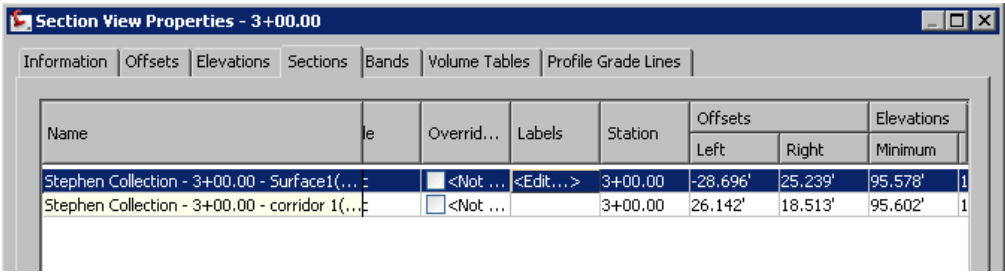

Figure 9-38 Partial view of the **Sections** tab of the **Section View Properties - 3+00.00** dialog box
- 4. In the first row of **Stephen Collection - 3+00.00 - Surface 1**, click on **<Edit>** in the **Labels** column, as shown in Figure 9-38.